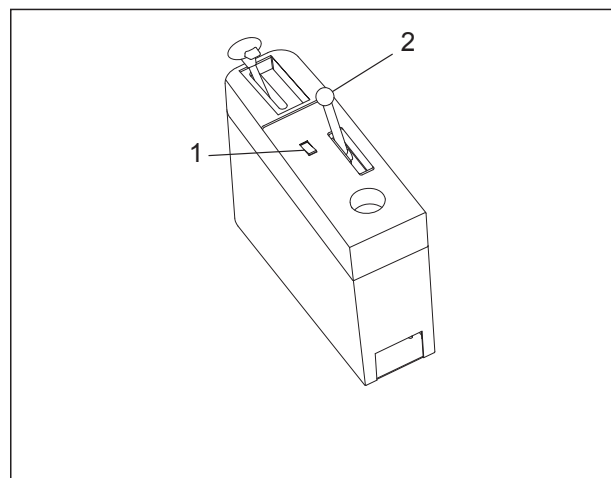

Fig.3-11
Refer to Fig3-11, this truck is equipped with two retarders: the transmission retarder and the rear disk brake retarder. The handle (2) is used to control the rear disk brake retarder. The transmission retarder switch (1) is used to control the transmission retarder.